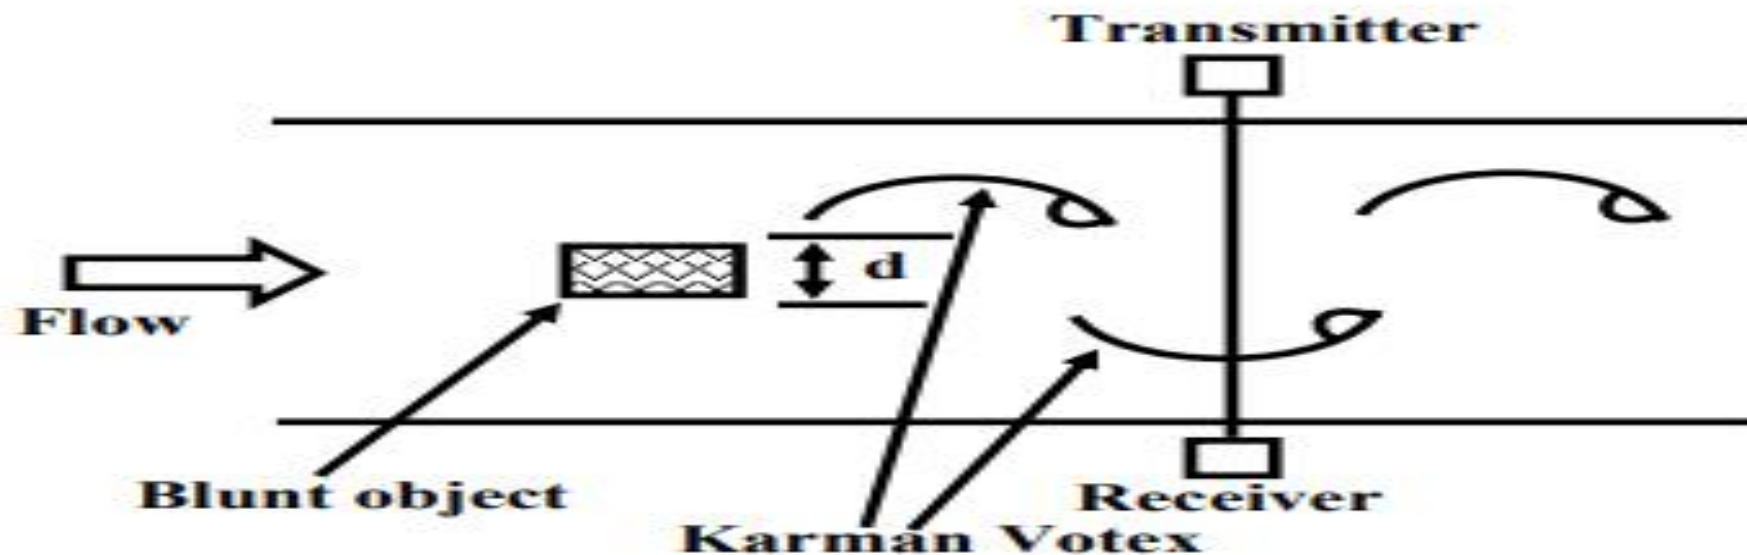

Fig. 12 Vortex type flowmeter
- Fig.12 shows the basic principle of vortex type flowmeter. It is based on the principle of vortex shedding. When a blunt object is placed in the passage of a flowing stream, vortices are formed. A vortex of this sort is called Karman Vortex. If the flow is turbulent and the Reynold's number is $R_D > 10^4$, then the frequency of vortex formation is given by:
- The fig. 12 shows a typical arrangement of measurement of frequency of vortex formation using ultrasonic technique. Formation of a vortex will modulate the intensity of ultrasound received by the receiver, and the frequency of modulation can be measured easily.